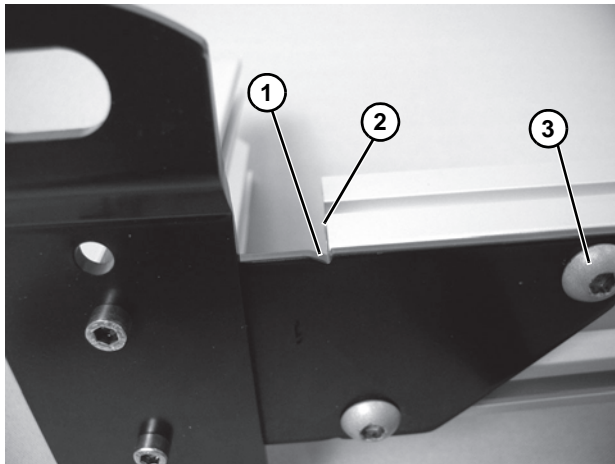

Figure 5
5. Align notch (**Figure 5, item 1**) on leg assembly with edge of crossmember (**Figure 5, item 2**).
6. Tighten button screws (**Figure 5, item 3**) to 150 in-lb (17 N-m).